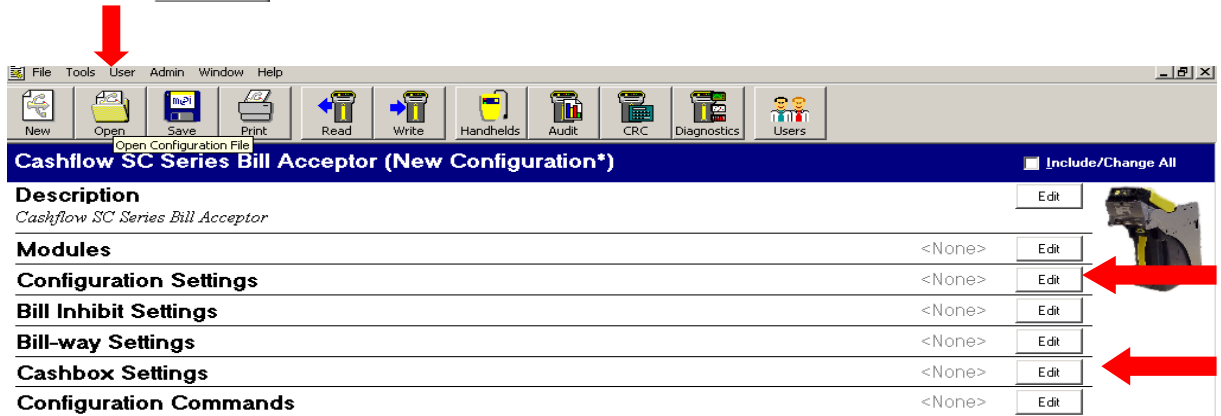

fig.4
2. Select the open  button from the main screen as shown in fig. 4
3. Under the "Modules" section, select the approved .xcf easitrax SC software file that is approved for your jurisdiction and click OK. See fig. 4
4. Under the "Configuration Settings" from fig. 4, select the edit box for the "RF Tag" option. The following box will appear.
6. Select the edit  box for the cashbox settings . See fig.4